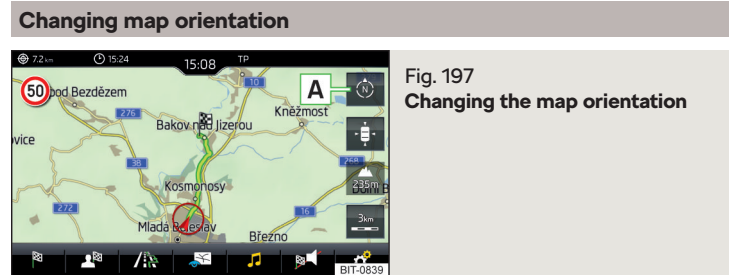

Fig. 197 Changing the map orientation
- To **change the map orientation**, go to the main *Navigation* menu and tap on function surface $\hat{\Theta}$ **A** » Fig. 197.